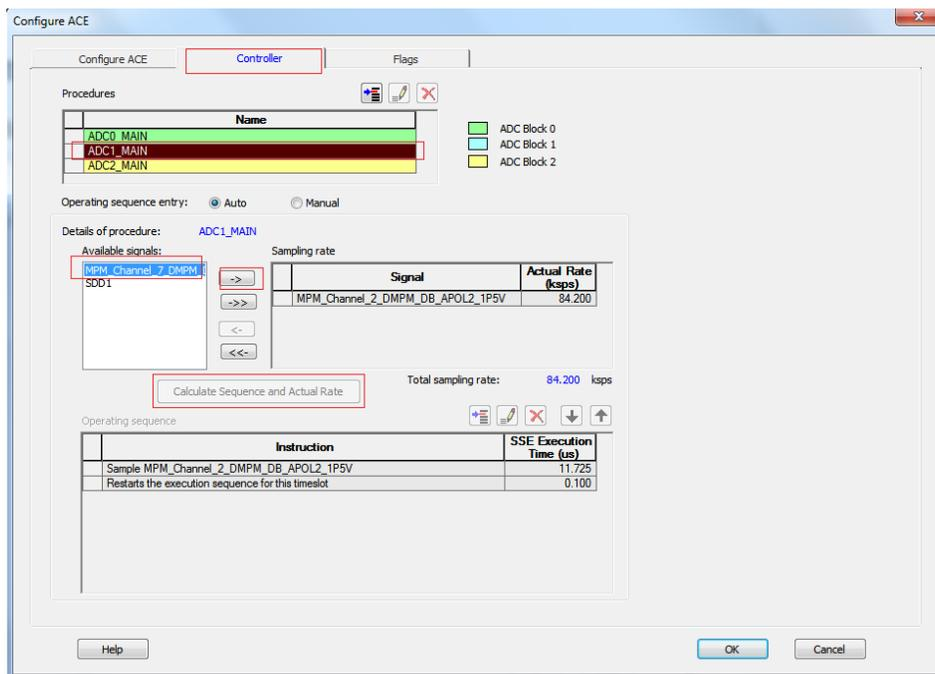

Figure 20 • Controller Tab of ACE Configurator
- After assigning the pin value, click the **Controller** tab. Then click ADC1_MAIN in the Procedures box. As shown in Figure 20 on page 18, open the **Controller** tab in ACE configurator to configure Sample sequencing. The Sampling Sequence determines the order in which analog channels are sampled for a particular ADC.
The **Operating sequence entry** can be specified as **Auto** or **Manual**. Select **Auto**. As shown in Figure 20, the **Available signals** list shows the signals that are assigned to a specific ADC. You can use this list of signals to indicate which one you want to sample in Auto mode by moving these signals to and from the **Sampling rate**. Click on the ADC<n>_MAIN in which the newly added signal is and move it from the **Available signals** list to **Sampling rate** table. Click **Calculate Sequence and Actual Rate**. This creates a basic round robin sequence of your selected signals. Click **OK**.